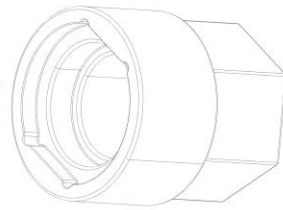

Figure 8
137-0920	Tool-Drive, Shaft Removal (removing drive shaft from reel). (Figure 8)
6. For proper safety, prevent the reel from rotating by blocking the cutting reel with a piece of wood **near one of the reel spiders**. Slide shaft drive removal tool (137-0920) (Figure 8) over the shaft so the flats on the input shaft and the flats on the socket align. Using 1½ inch box end wrench, remove the groomer drive shaft from the cutting unit.